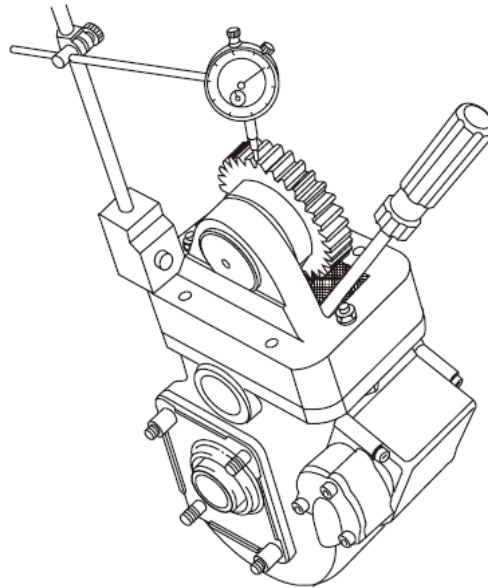

Figure 6 Checking Adaptor-to-PTO Backlash
- b. Position new gaskets and the adaptor housing on the PTO housing and secure the adaptor to the PTO with two suitably sized bolts and nuts (Fig 6)
- c. Install a dial indicator on the adaptor housing with the dial indicator plunger resting squarely on the adaptor gear (Fig 6).